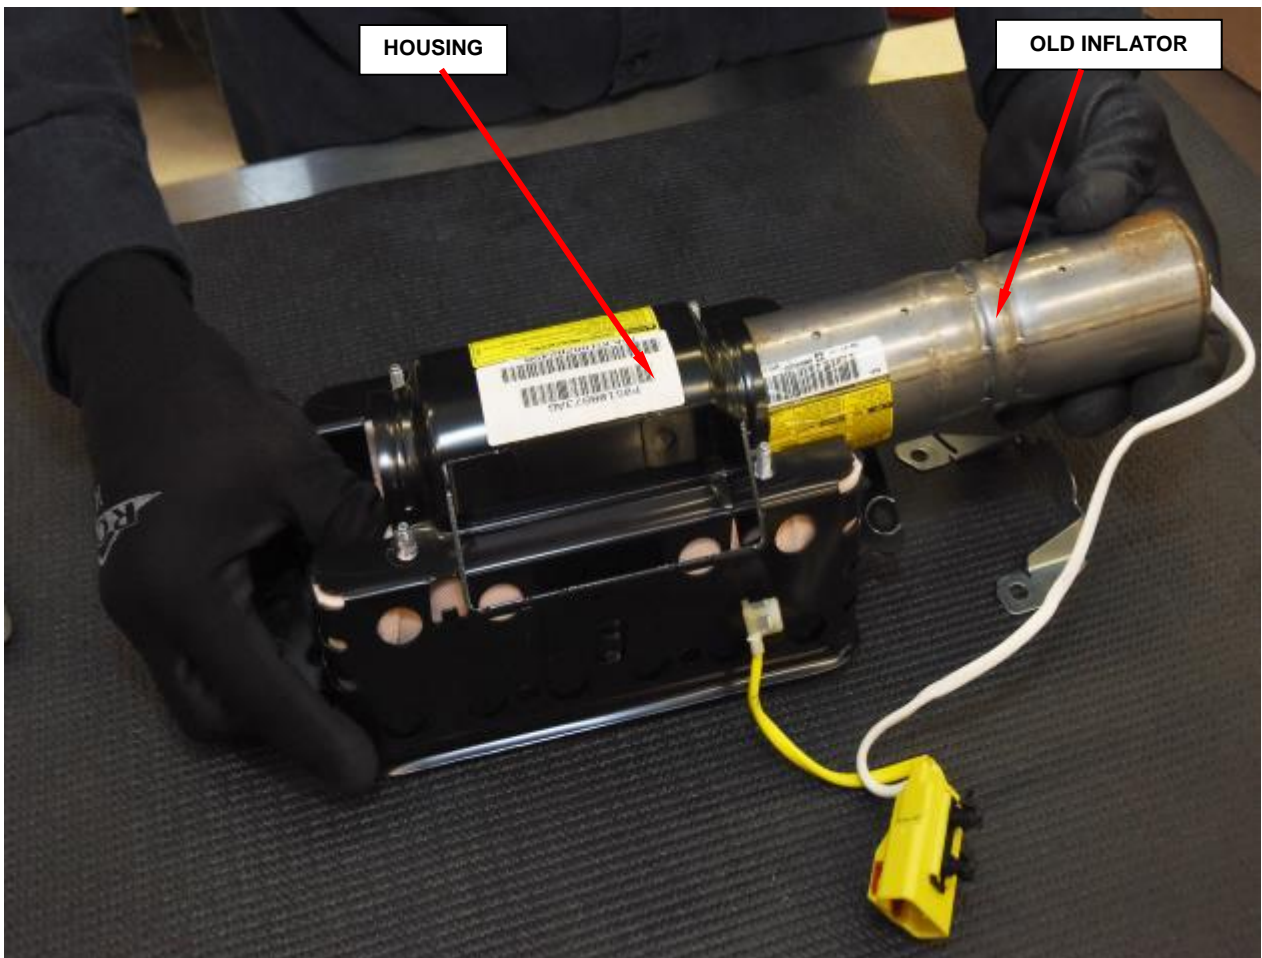

Figure 73 – Passenger Airbag Inflator Removal
- g. Slide the inflator out of the housing (Figure 73).